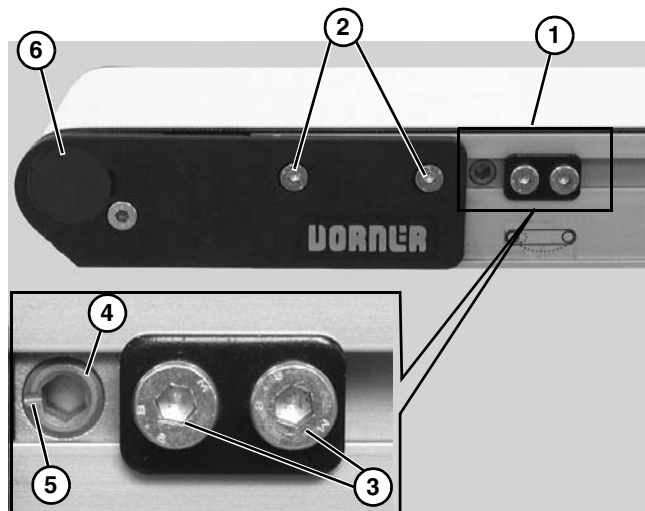

Figure 44
Non V-guided belt conveyors are equipped with belt tracking cam assemblies (**Figure 44, item 1**) for belt tracking adjustment.
1. Ensure head plate fastening screws (**Figure 44, item 2**) on both sides of conveyor are tightened.
2. On both sides of conveyor, loosen two (2) cam fastening screws (**Figure 44, item 3**). Adjust cams (**Figure 44, item 4**) until indicator slots (**Figure 44, item 5**) are horizontal and facing end of conveyor. Then slide cam assemblies against head plates (**Figure 44, item 6**) and re-tighten cam fastening screws (**Figure 44, item 3**) to 60 in-lb (7 Nm).
3. On the side toward which the belt is tracking, loosen head plate fastening screws (**Figure 44, item 2**).
4. With the conveyor running, use a 5 mm hex-key wrench to rotate the tracking cam (**Figure 44, item 4**) in small increments until the belt tracks in the center of the conveyor. Then while holding the cam in position, re-tighten the head plate fastening screws (**Figure 44, item 2**) with a 4 mm hex-key wrench to 60 in-lb (7 Nm).